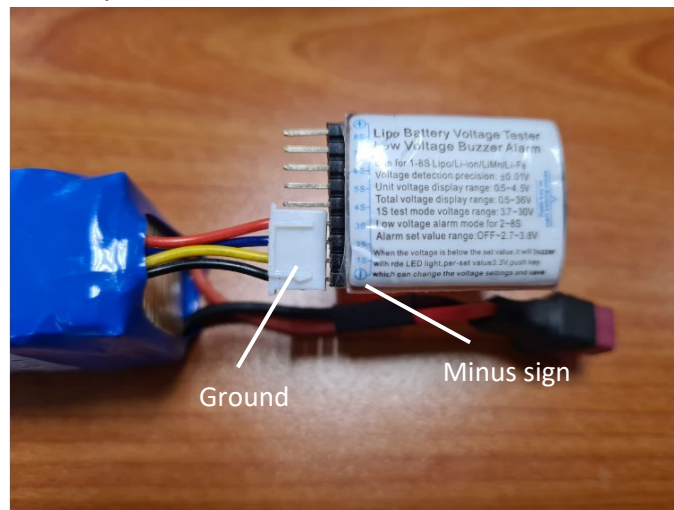

Figure 11: Li-Po Battery with Battery Tester
- 2) Ensure that the Ground (Black) cable on the Balance Lead is connected to the pin with 'minus' symbol on the voltage tester as shown in *Figure 11*.